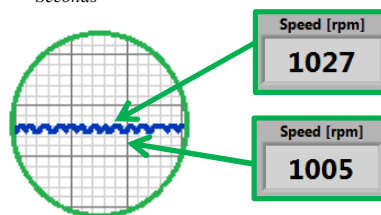

Fig. 17 – Measure of the oscillations
- 5) Measure the oscillation  $N_{osc}$  occurring in  $X_{Seconds}$  as shown in fig 17 (X can be chosen at random).